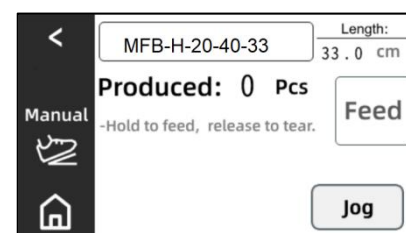

Figure 2
1) Tap  on the home page to enter the interface. (Figure 2)